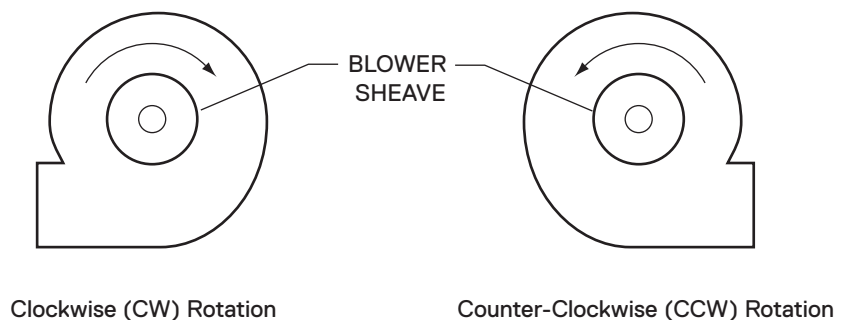

Figure 2
- 14 Apply power to the blower motor momentarily (bump start) to check for proper blower wheel rotation. If the blower is rotating in the wrong direction, reconnect the motor leads per the motor manufacturer's wiring schematic. **Blower rotation is determined by viewing the blower from the motor side of the blower, NOT from the inlet side.** After reconnecting the leads, repeat this step. See **Figure 2**.